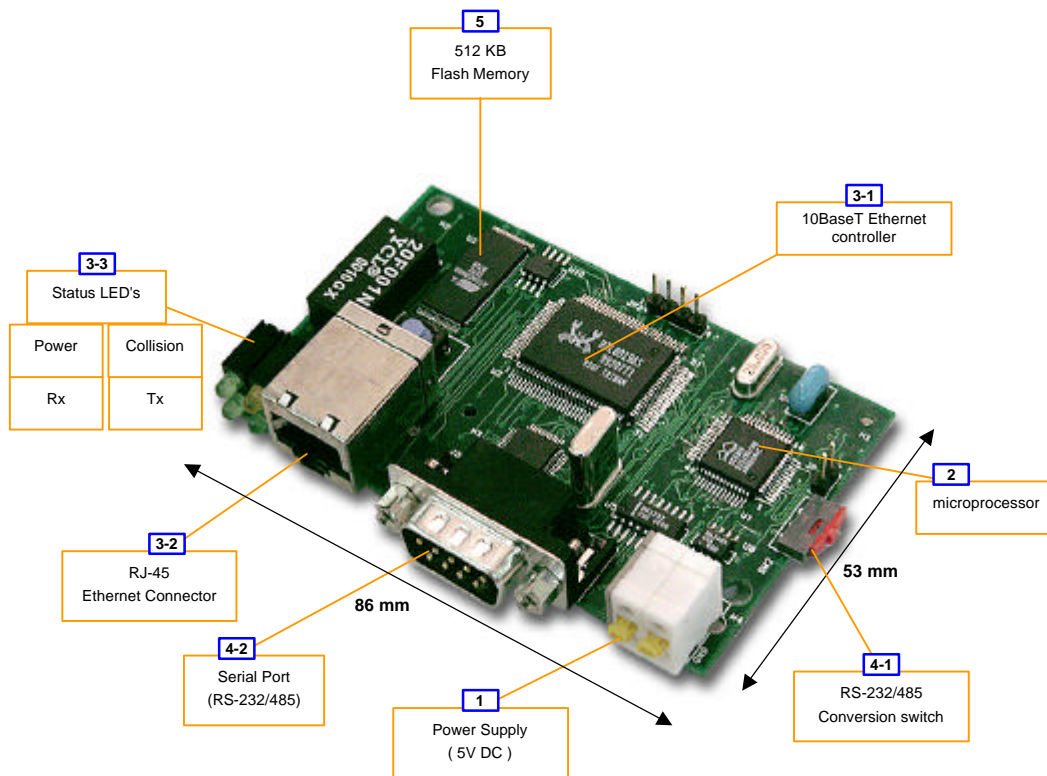
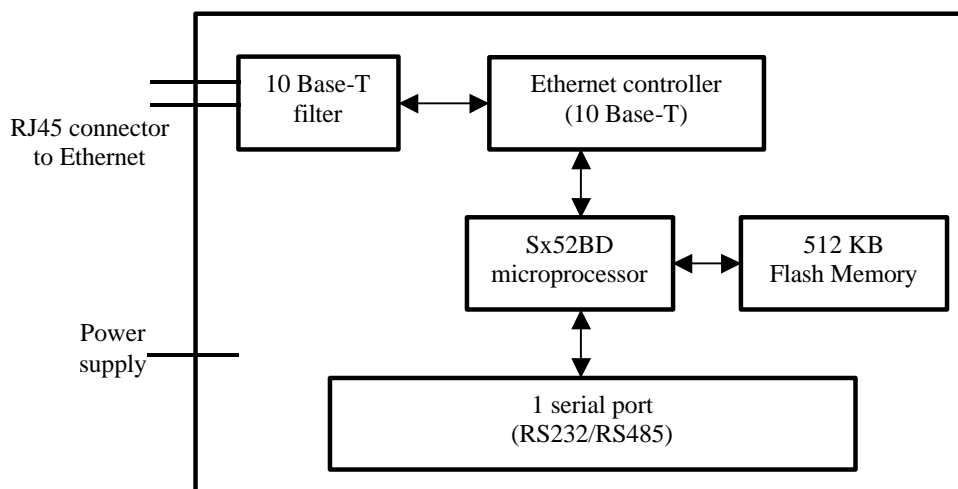

Figure 3.1. the HelloDevice 1300 Configuration and Components
Figure 3.2. the HelloDevice 1300 System Block Diagram
The hardware configuration and the system block diagram of the HelloDevice 1300 Main Board are shown below in Figure 3.1 and Figure 3.2. (The board layout in Figure 3.1 may be slightly different from the layout of the HelloDevice main board in the Starter Kit for the performance improvement.)
- 52-pin PQFP (See Figure 3.1, Part [2])
The Ethernet Controller provides the functions of framing and addressing data, and detecting and avoiding errors and collisions (See Figure 3.1, Part [3-1]).
- Shielded Connector compliant with AT&T258 specifications (See Figure 3.1, Part [3-2])
There are four status indicator LED's which indicate the following: (See Figure 3.1, Part [3-3]).
(3) Check to see if the Tx LED of the HelloDevice Status Display LED blinks periodically in one-second interval. (See the [Status LED] in the Figure 3.1)
Since the factory default setting of the HelloDevice IP address is 0.0.0.0, the HelloDevice sends BOOTP request for IP assignment, when it is powered up for the first time. Thus, users can see Tx LED keeps blinking periodically as a reminder (See Figure 3.1, Status LED).